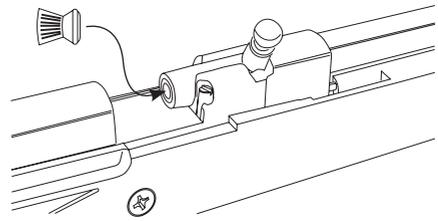

Fig. 10
- Load the barrel with only one pellet from as shown in (Fig.10).